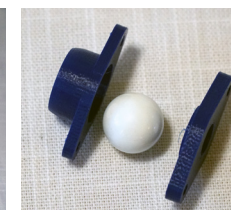

Figure 5
7. **Marble Wheel:** Place the marble in the blue holder. Place the thin blue piece on top. Secure to chassis bottom with 2 zip ties, as shown. (Figures 5 and 6)